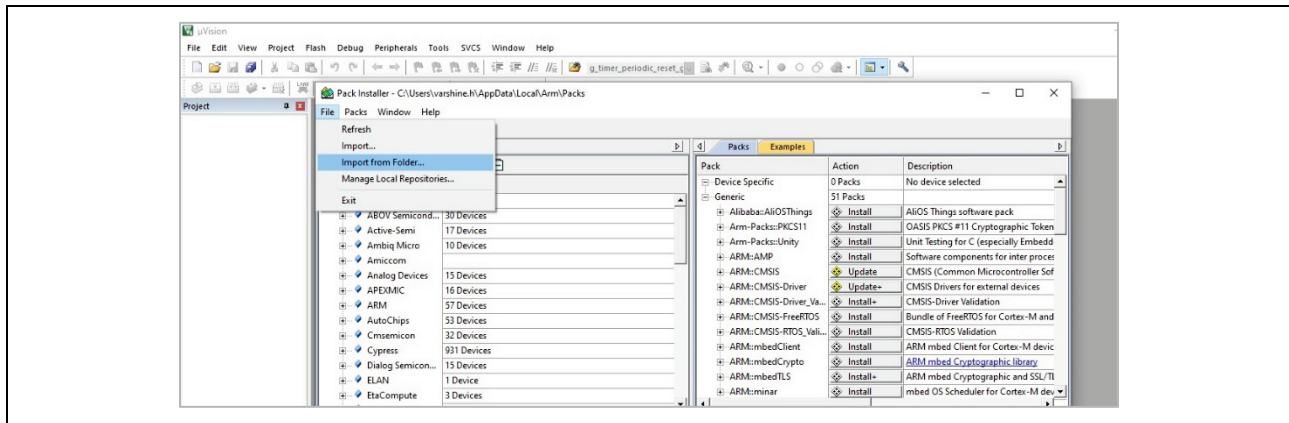

Figure 30. Import from Folder
4. Go to **File > Import from Folder...** as shown in Figure 30.